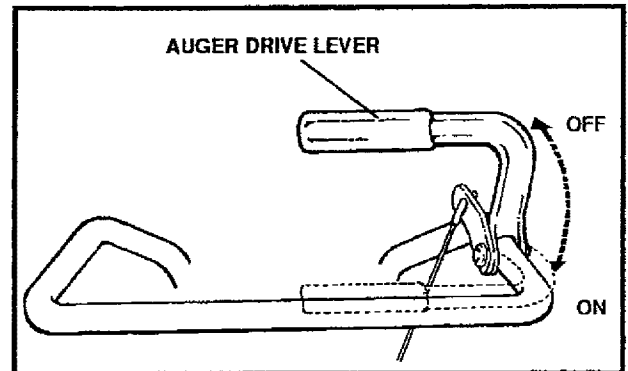

FIG. 4
- Push down the auger drive lever (See FIG. 4). The auger will assist in self propelling the unit.
- Push down the auger drive lever (See FIG. 4).